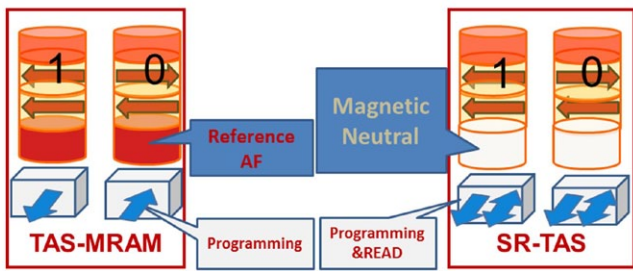

Fig. 3: TAS-MRAM with fixed reference (FR) vs SR-TAS with sense reference (SR).
is achieved by simply replacing the fixed reference layer (FR) with a magnetically free layer renamed as the sense layer – see figure 3. As before the resistance of the SR bit cell depends on whether magnetic orientations of the sense and storage layers are parallel or anti-parallel. However, since the sense layer orientation can be controlled using the field line, it becomes a true 3-terminal logic element where the output value is a comparison between the stored data orientation and that of the sense layer defined by the input to the field line. This element acts as an XOR (exclusive OR) logic device.